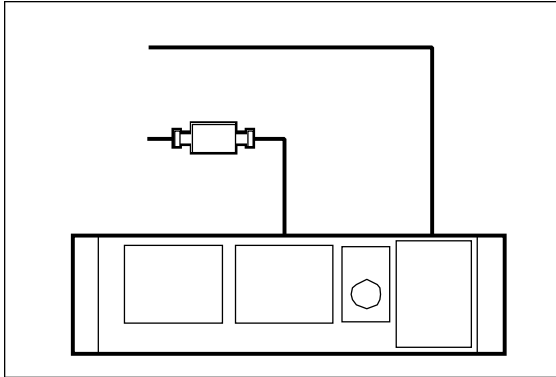

Figure 103. How to set up the 1780R for ICPM measurements.
**Waveform Monitor.** To display ICPM on a waveform monitor, connect the demodulator outputs to the waveform monitor inputs as shown in Figure 103. Select ICPM in the 1780R MEASURE menu or EXT HORIZ on the 1480 front panel.
Although it is not strictly necessary, it is generally recommended that the signals be lowpass filtered to make the display easier to interpret. With either the 1780R or the 1480, this can be accomplished in the vertical channel by selecting the LOW-PASS filter. Use an external 250 KHz lowpass filter for the horizontal (see Figure 103).